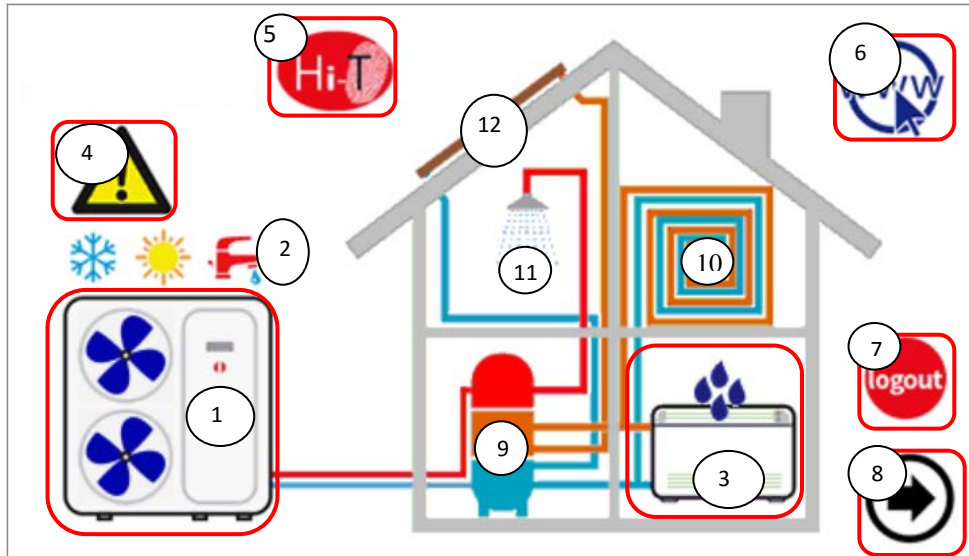

Figure 5. Home page – indication meanings
From the main page, by pressing the chiller symbol (sensitive area number 1, Figure 5. Home page – indication meanings), you can access to the chiller page on network screen.
From the main page, by touching the fancoil symbol (sensitive area number (3), Figure 5), you can access at the fancoils screen page in the network.